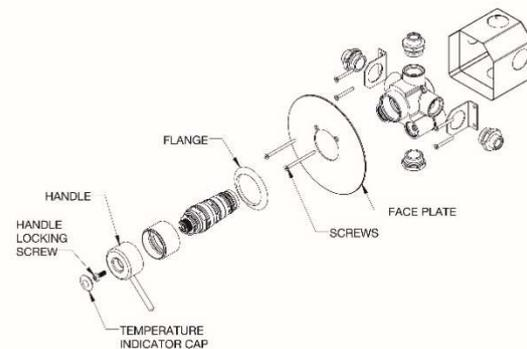

Figure 24
4. Fit the faceplate with the two supplied screws and then slide on the flange. Fit the handle and the temperature indicator button to the handle (see figure 24). Ensure the movement of the handle is the same as shown (see figure 25).